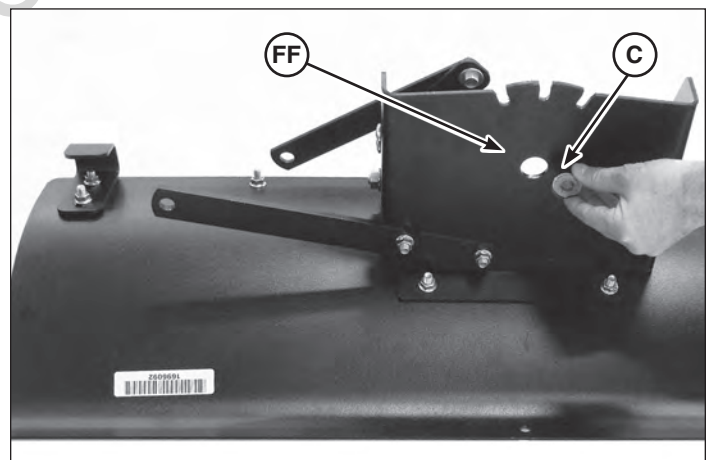

Figure 8
1. Insert spacer (**C**, Figure 8) into the hole in the blade assembly (**FF**).